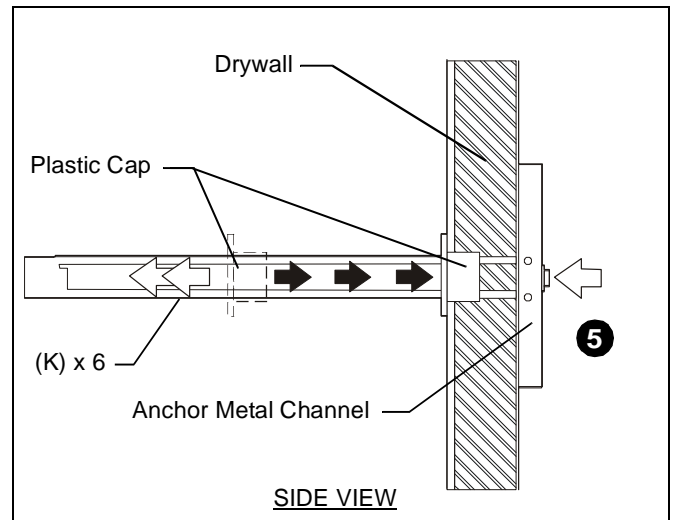

Figure 19
4. Holding plastic straps on anchor (K), pull anchor away from wall until channel rests flush behind wall making sure anchor channel is positioned vertically on stud. (See Figure 19)
5. Slide plastic cap on anchor (K) towards wall until flange of cap is flush with wall. (See Figure 19)